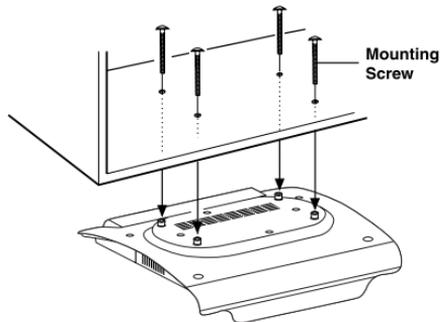

Figure 4
- Insert the four selected screws through each hole from the inside of the cabinet going down (see Figure 4).